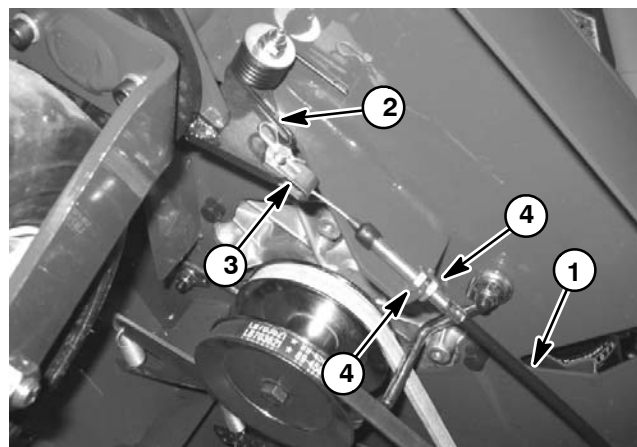

Figure 9
3. Disconnect castor release cable from castor release detent under front of machine (Figs. 9 and 10):
3. Connect castor release cable to castor release detent under front of machine (Figs. 9 and 10):